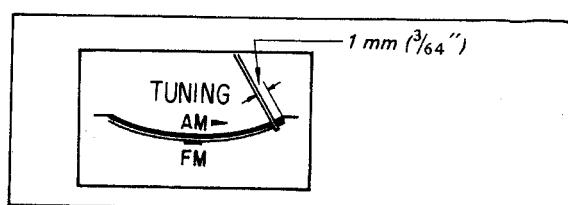
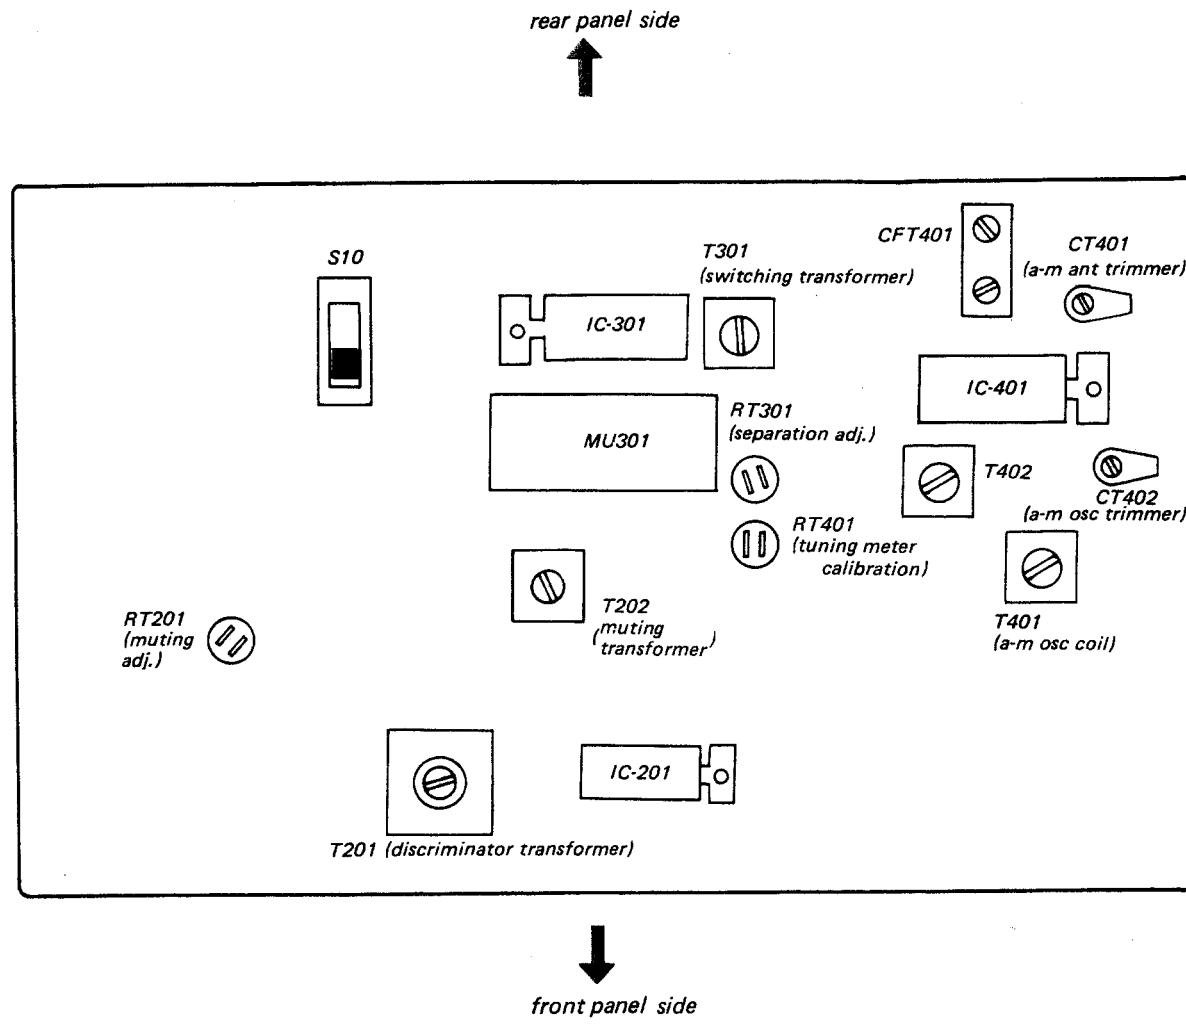

Fig. 3-9. TUNING meter calibration
Fig. 3-10. Adjustment parts location
1. Precisely tune the receiver to the carrier frequency of stereo signal generator, then turn the top core of switching transformer T301 (See Fig. 3-10) to obtain maximum output at the left channel. Note that this adjustment has a close relationship with stereo distortion.
4. The output-level to residual-level ratio represents the separation. Adjust separation adj. control RT301 (See Fig. 3-10) for minimum residual level. Check the right channel for separation. Usually, about an 8 to 9 dB difference in channel separation exists. Readjust RT301 for minimum difference between left- and right-channel separation. While doing this, remember that the output level also changes according to the setting of RT301.
1. Turn RT201 (See Fig. 3-10) fully clockwise.
(See Fig. 3-10) for proper muting operation. Muting should begin at point equidistant from zero center.
Precisely tune the receiver to the signal and adjust RT401 (See Fig. 3-10) to obtain the meter pointer within 1 mm ($\frac{3}{64}$ ") left of its maximum indication as shown in Fig. 3-9.